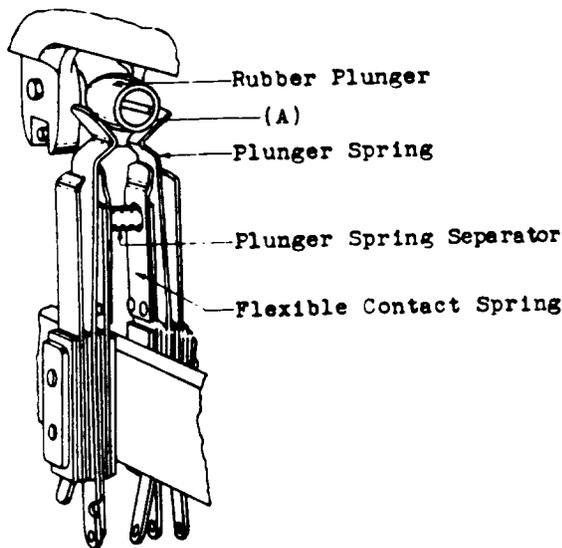

Fig. 3
*2.05 Relation of Plunger Springs to the Rubber Plungers - Fig. 3 (A) - The plunger springs shall clear the rubber plungers simultaneously but when the plunger is resting against the plunger springs of one combination or in one way lever combinations, against the